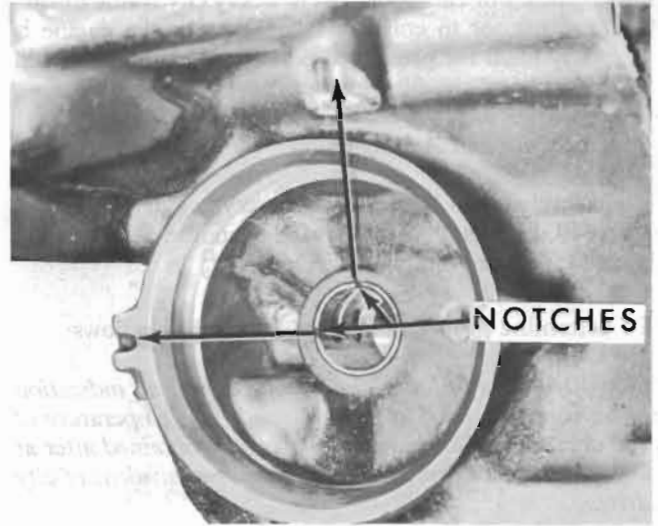

Figure 76-286
d. Drive the bushing until it is flush with the top of the bore. See Figure 76-286.